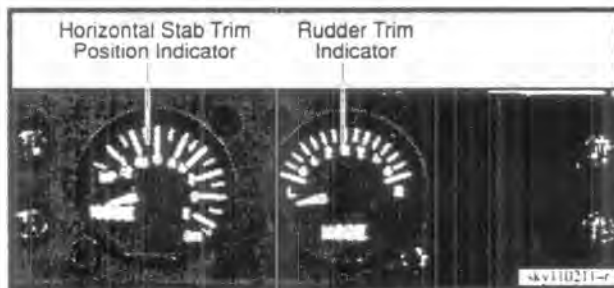

Figure 1-17 Trim Indicators
1.115 The entire surface of the horizontal stabilizer is moved by an electrically operated actuator to provide longitudinal trim. The actuator is controlled by forward and rearward movement of the trim switch to NOSEDOWN or NOSEUP. In the TA-4 the pilot first initiating horizontal stabilizer trim will control the direction of the horizontal stabilizer movement. Stabilizer travel is from twelve degrees noseup to one degree nosedown. The position of the horizontal stabilizer is shown on the trim position indicator. Refer Figure 1-17.